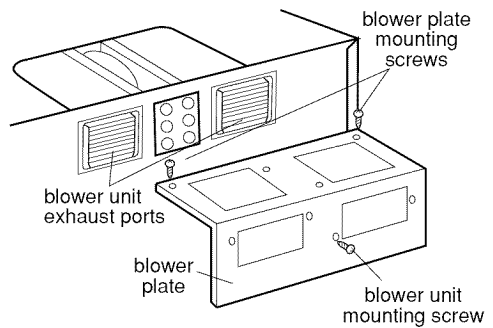

Figure 15
8. Reattach blower plate to cabinet so exhaust ports and blower plate opening are aligned. Attach with the one blower unit mounting screw and then the two blower plate mounting screws. See Figure 15.